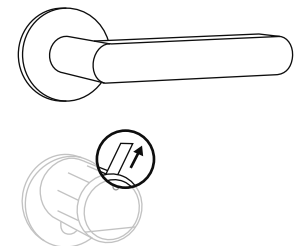

Abb. 104
- 7 If you have not already done so, remove the battery protection strip from the battery compartment on the inside knob (Fig. 104).